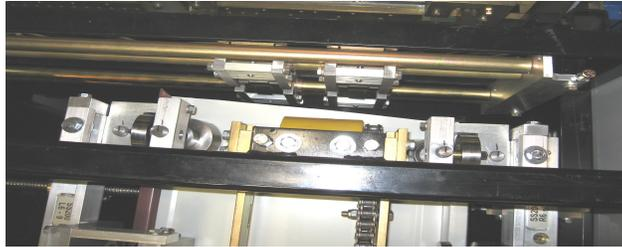

Figure 57: Jogging Material thru Machine
17. Start the machine and use the Jog button on the Manual Control Box or Computer to jog the material through the machine 6 to 8 inches at a time until it exits the last forming stations, and is about 1" from the Bead Roller Assembly (Figure 57).